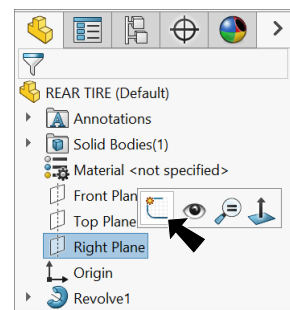
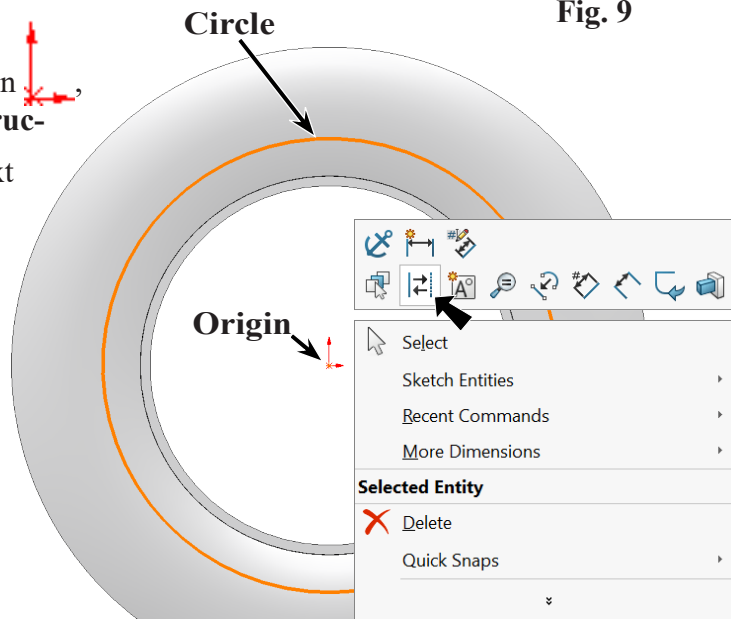

Fig. 9
Fig. 10
Step 1. Click **Right Plane**  in the Feature Manager and click **Sketch**  on the context toolbar, **Fig. 9**.
Step 3. Click **Circle**  (S) on the Sketch toolbar.
Step 4. Sketch a circle starting at the Origin , **right click circle** and click **Construction Geometry**  on the context toolbar, **Fig. 10**.